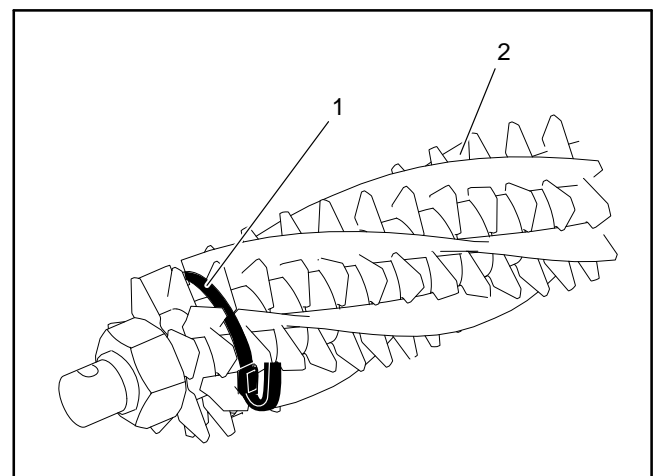

Figure 13
E. Cut off strap extension approximately 1/4" (6 mm) beyond retainer and fold the excess strap over the buckle (Fig. 13).